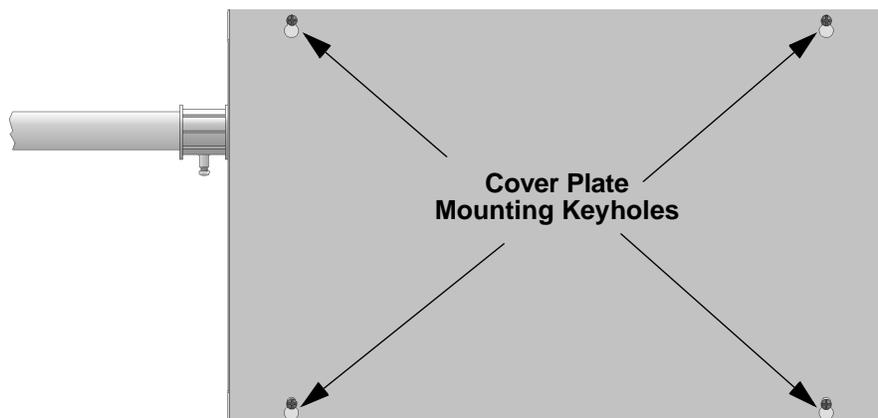

Figure 4-7 Cover Plate Mounting Keyholes and Cover Mounting Screws Alignment
- Align the cover plate mounting keyhole over the cover mounting screws. See Figure 4-7.
- Slide the cover into place and tighten the cover mounting screws. See Figure 4-7